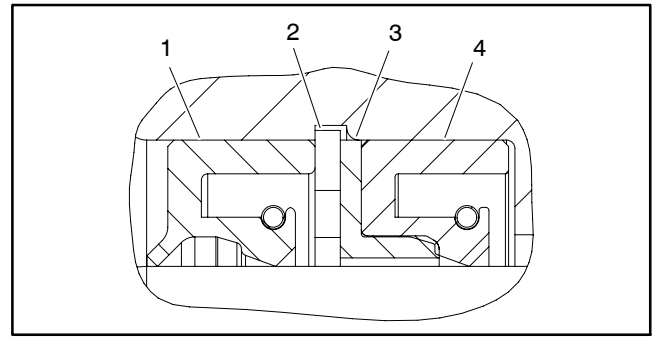

Figure 76
10. Carefully remove dust seal, retaining ring, flange washer and shaft seal from the front flange (Fig. 76). Discard seals.
2. Install new seals into front flange (Fig. 76):